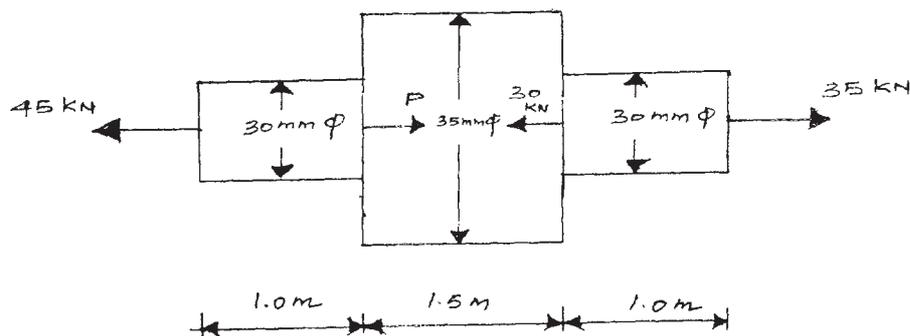

Fig. 3
12. (a) A steel bar 3.5 m long is acted upon by forces as shown in Fig. 3. Determine the value of P and the total elongation of the bar. Take $E = 2.05 \times 10^5 \text{ N/mm}^2$.